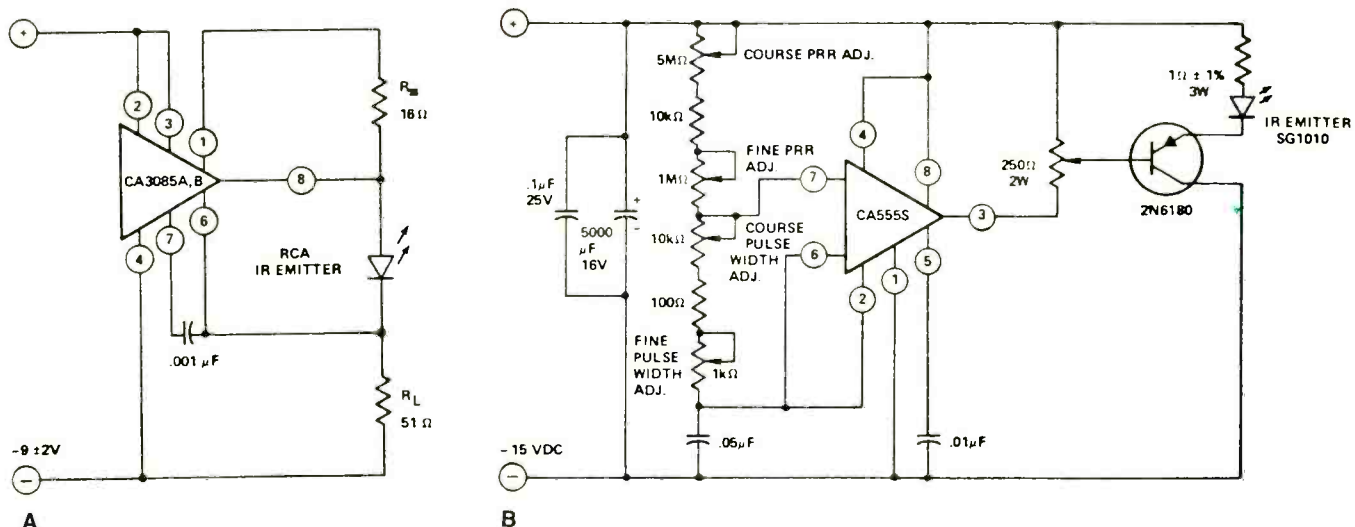

Fig. 2. Basic IR emitter-driver circuits: (A) direct current; (B) simple pulser.
As a general rule, IR (infrared) emitting diodes or injection diode lasers are used as transmitting sources. These are more efficient than visible light LED's and can develop higher peak output levels. As a further advantage, the silicon photodiodes used as detectors are more sensitive to infrared than to visible radiation. A typical IR emitter driver circuit is illustrated in Fig. 2. Using standard devices, this circuit was abstracted from *RCA's* 24-page booklet *Solid State IR Emitters and Injection Lasers*, publication No. OPT-113C. In addition to this and other practical circuits, the publication includes outline drawings of typical devices, condensed specifications, definitions of special terms, a discussion of safety considerations, characteristic curves, and a valuable review of basic theory.
Featuring a CA3085A/B positive voltage regulator IC, the simple driver circuit given in Fig. 2(A) permits IR emitters to be driven by unregulated dc sources of from 7 to 11 volts. It provides adequate voltage regulation and limits maximum forward current to protect the emitter diode. This basic circuit may be modified for use as an optical digital data transmitter by keying the IR emitter on and off using a series control transistor or other switching device capable of handling currents of up to 100 mA.
A simple pulser for IR emitter diodes is shown in Fig. 2(B). Here, a CA555 timer IC serves as the pulse oscillator. The oscillator output is applied through a 250-ohm drive amplitude